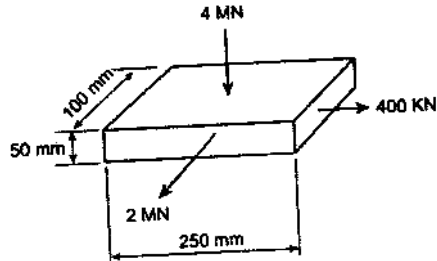

Fig. 16(a)
16. (a) A metallic bar 250 mm × 100 mm × 50 mm is loaded as shown in figure 16(a). Find the change in volume. Take  $E = 2 \times 10^5$  N/mm2 and the Poisson's ratio = 0.25. Also find the change that would be made in the 4MN load, in order that there should be no change in the volume of the bar.